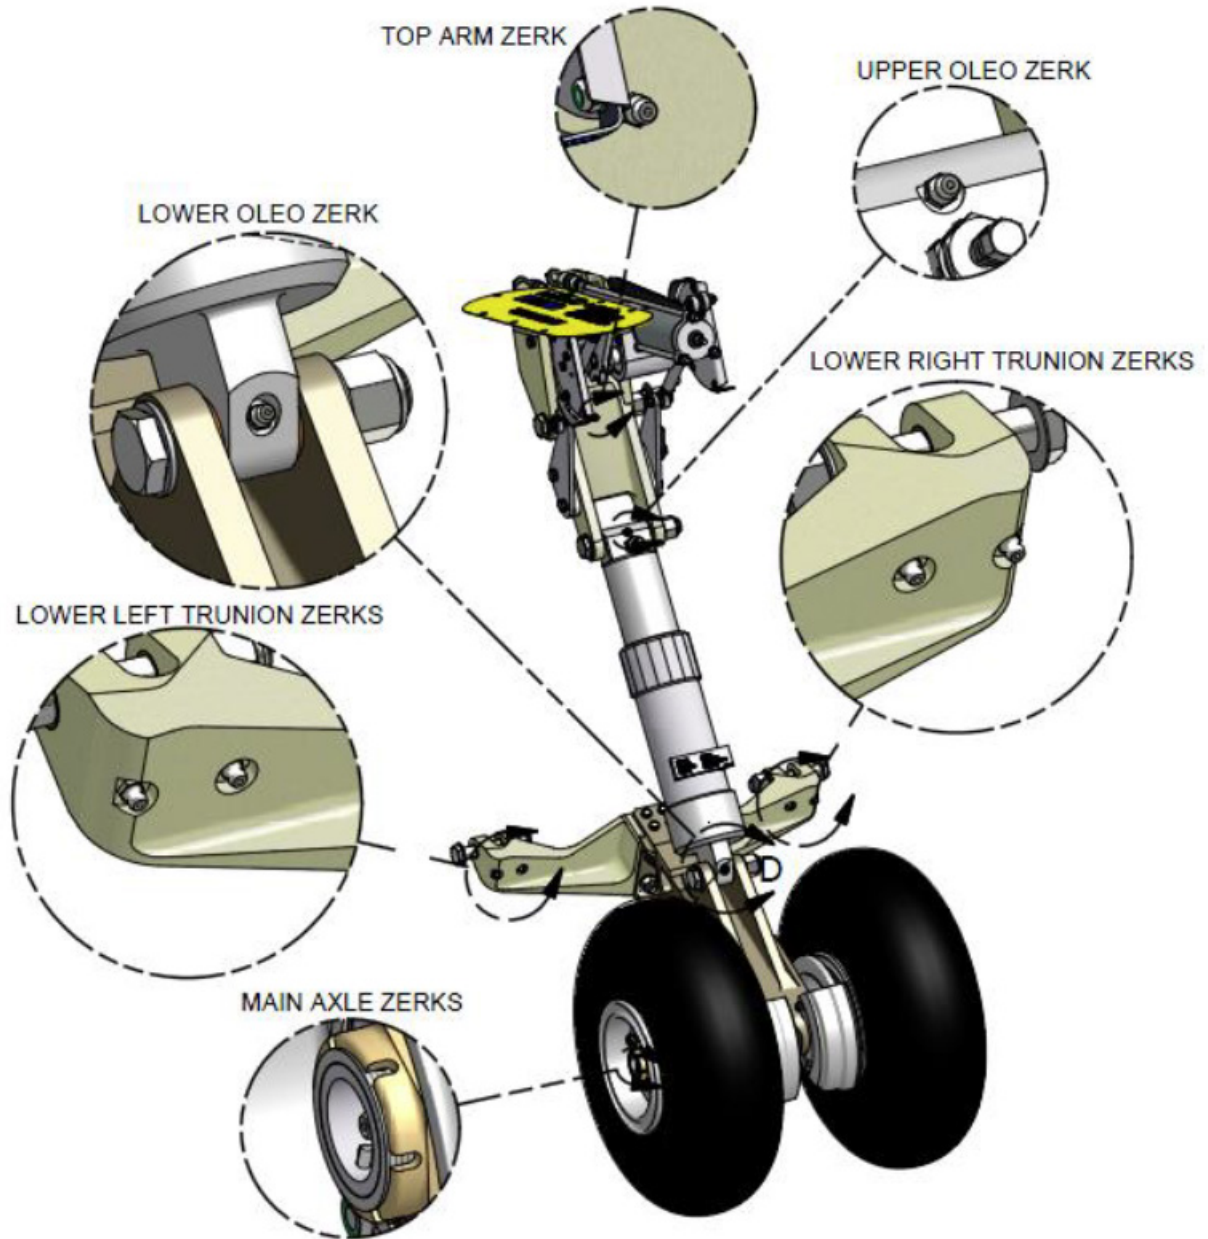

FIGURE 4-3 MAIN GEAR GREASING
There are several service points on the main landing gear to pay attention to during maintenance. Grease zerks are located on the pivots of the main gear draglinks, each wheel axle, top and bottom pivot points on the oleo-pneumatic shock strut, and the rotation point of the top arm assembly, see figure 4-3. The adjustable rod end bearings are permanently sealed and do not require servicing. Inspect the rod ends for freedom of movement and corrosion. Replace the rod ends when necessary. Depending on the operating environment, greasing requirements may vary. Highly corrosive environments, such as salt water, may require more frequent inspections. Regardless, the gear should be inspected visually at least every 25 hours for cleanliness and proper lubrication.
Note: If replacing any of the (4) bushings located within the pivot arm which are serviced by the trunion zerks (see Figure 4-3), the internal grooves must be aligned to the zerk fitting and a grease hole must be drilled into the bushing after insertion.